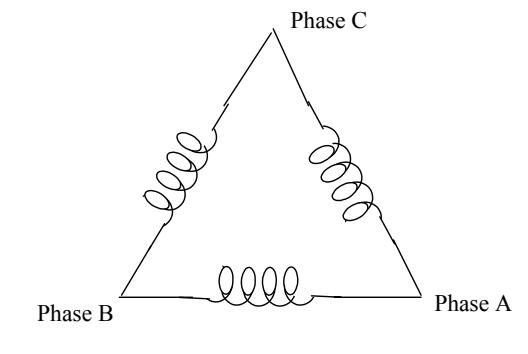

Figure 1.3: Three-Phase Delta Winding Relationship
- Delta connected services may be fed with either three wires or four wires. In a three-phase Delta service, the load windings are connected from phase-to-phase rather than from phase-to-ground. Figure 1.3 shows the physical load connections for a Delta service.